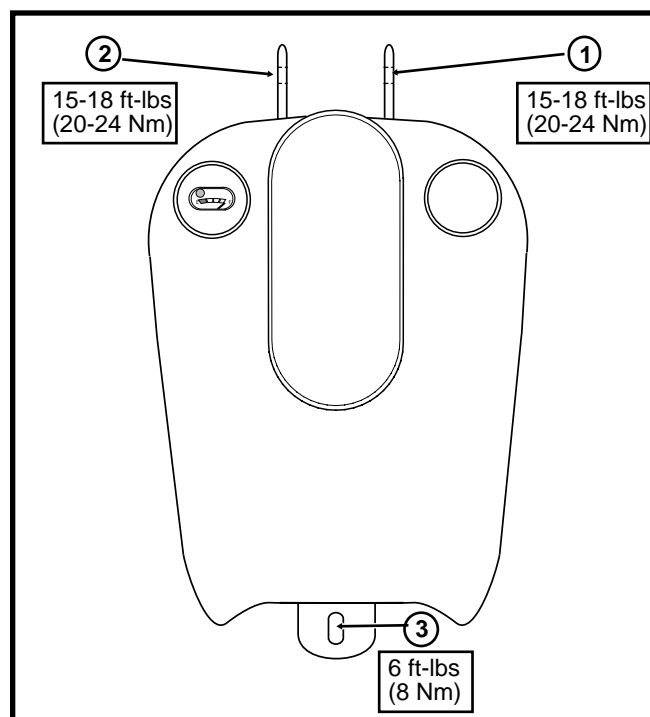

Figure 1. Fuel Tank Fastener Tightening Sequence
2. See Figure 1. Loosen console acorn nut (FLHR/CI) or allen head screws (all other FL models).